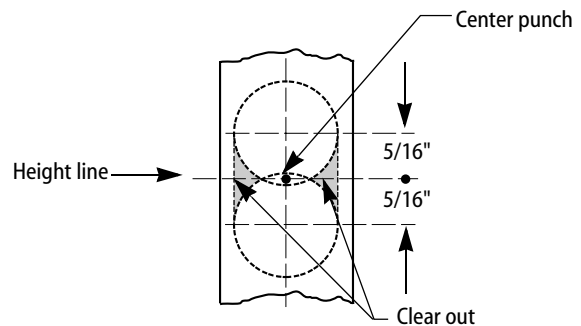

Figure 3 — Drilling out the deadbolt recess
- 2 Drill two 1" diameter holes, located 5/16" above and below the center punch to a depth of 1 1/8". See Figure 3.